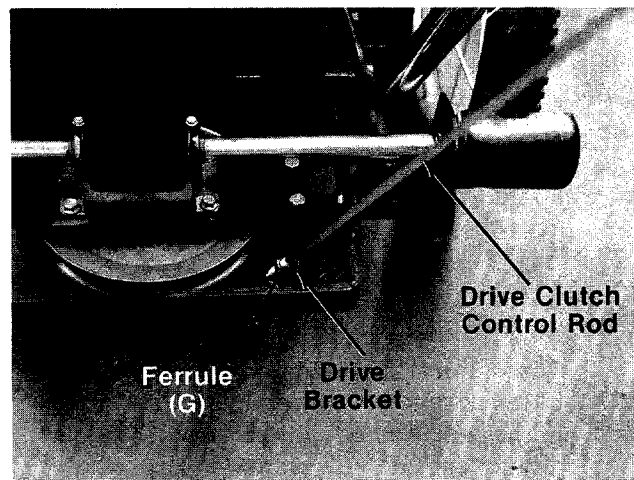

FIGURE 6.
2. Place ferrule (G) in position on drive bracket. See figure 6. Thread clutch control rod through ferrule until approximately  $1-3/8$ " of threads show below ferrule. See figure 6.